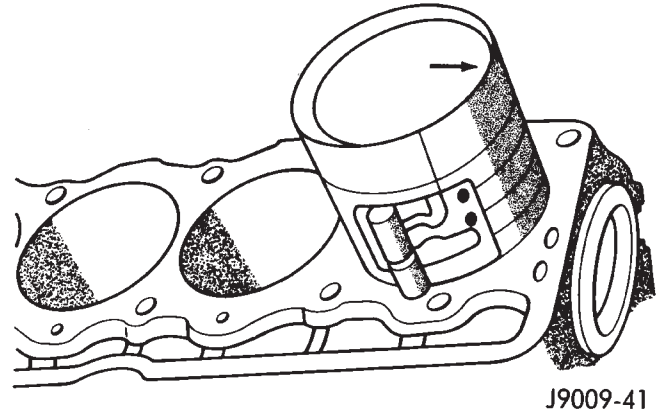

Fig. 65 Rod and Piston Assembly Installation
(4) Use a piston ring compressor to install the connecting rod and piston assemblies through the top of the cylinder bores (Fig. 65).
(5) Ensure the arrow on the piston top points to the front of the engine (Fig. 65).
(6) Raise the vehicle.
(7) Each bearing insert is fitted to its respective journal to obtain the specified clearance between the bearing and the journal. In production, the select fit is obtained by using various-sized, color-coded bearing inserts as listed in the Connecting Rod Bearing Fitting Chart. The color code appears on the edge of the bearing insert. The size is not stamped on inserts used for production of engines.